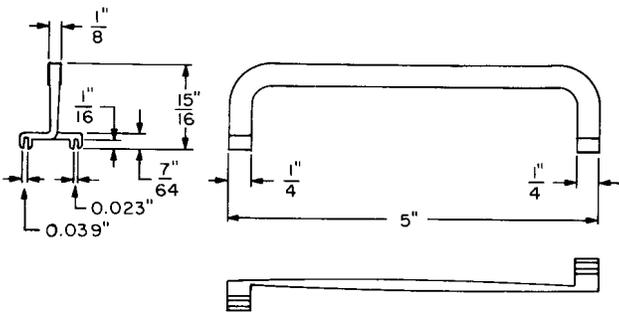

Fig. 4—130 Adjuster Tool
2.04 **130:** The 130 tool (Fig. 4) is a spring adjuster used to adjust the middle bank of springs on the 125-type relays.